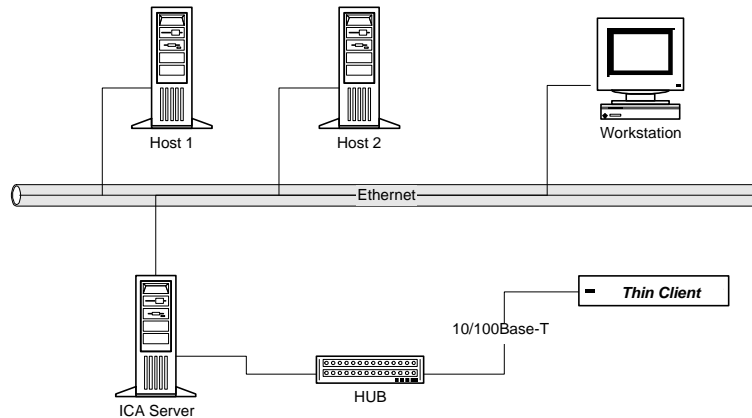

Figure 5 LAN Connection through TCP/IP
- If LAN connection through TCP/IP is desired, connect 10/100BASE-T cable from  network outlet to a hub (Figure 5).